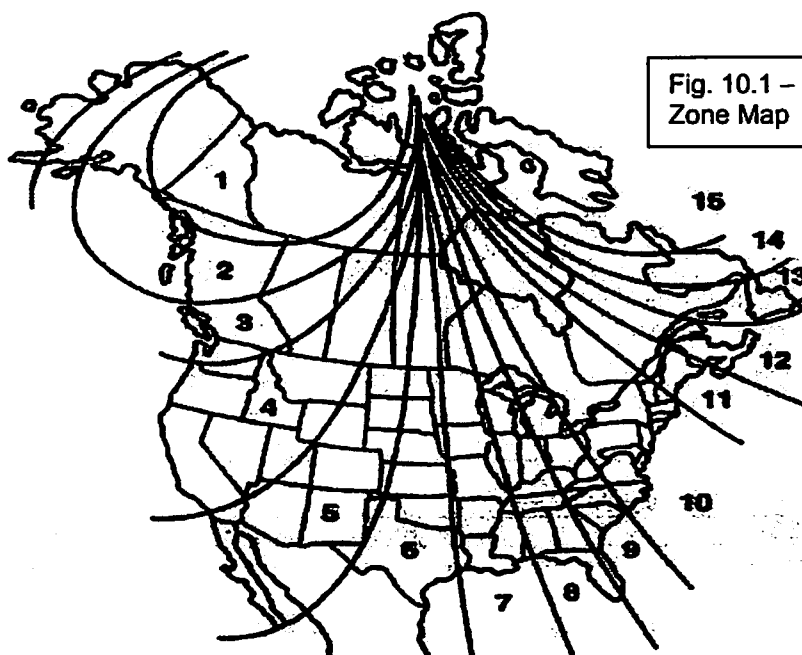

Fig. 10.1 - Compass Calibration Zone Map
- 10.1 Compass Zone Adjustment - **NOTE:** The zone setting is factory preset to Zone 8. Refer to Compass Calibration Zone Map (See Fig. 10.1) to verify the correct compass zone setting for your geographical location.